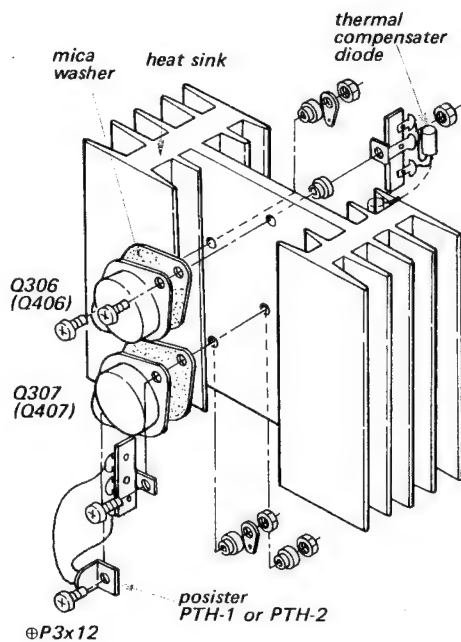

Fig. 2-7 Power transistor replacement
4. Remove the two screws (\oplus P 3 \times 12) and nuts securing the power transistor to the heat sink, then install a new transistor. See Fig. 2-7.